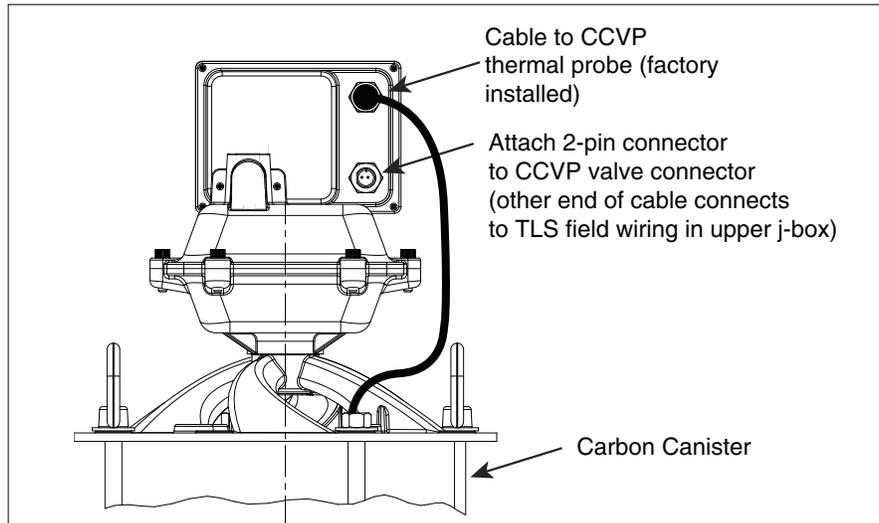

Figure 4. Locating the Vapor Valve Connector
9. Connect the two-pin connector of the 6-foot cable provided in the installation kit to the CCVP vapor valve, observing plug polarities (see Figure 4). The other end of this cable is passed through a kit supplied cord grip in the weather tight junction box.